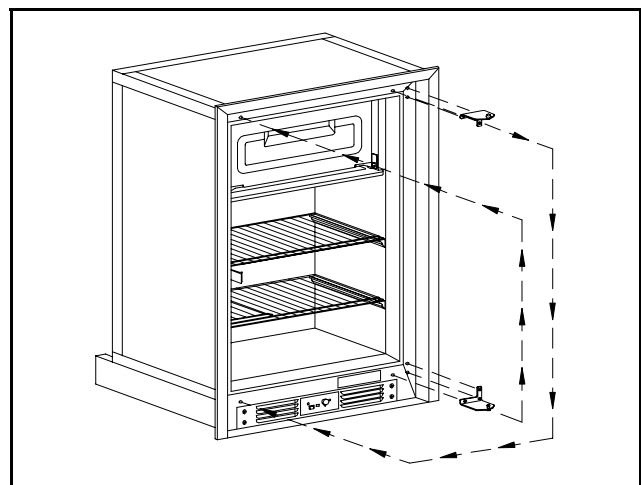

Figure 11
10. Reposition the bottom hinge bracket in the top corner of the refrigerator where the hole plugs previously were. Attach hinge bracket using the three screws previously removed. Do not tighten screws (see Figure 11).